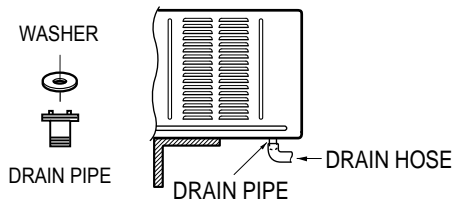

Fig. 5
- 3) Connect a drain hose of 9/16 inside diameter to the drain pipe as shown Fig. 5